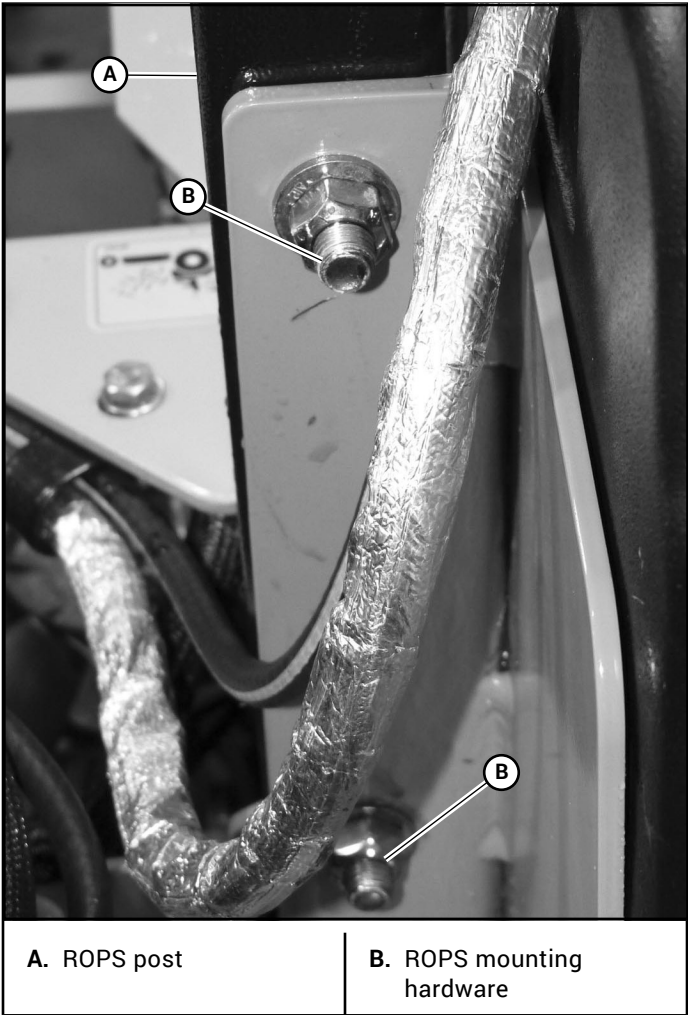

Figure 3-11
- 1. Check the torque of the ROPS mounting bolts. Tighten the bolts to the correct torques as shown below if necessary. Figure 3-11